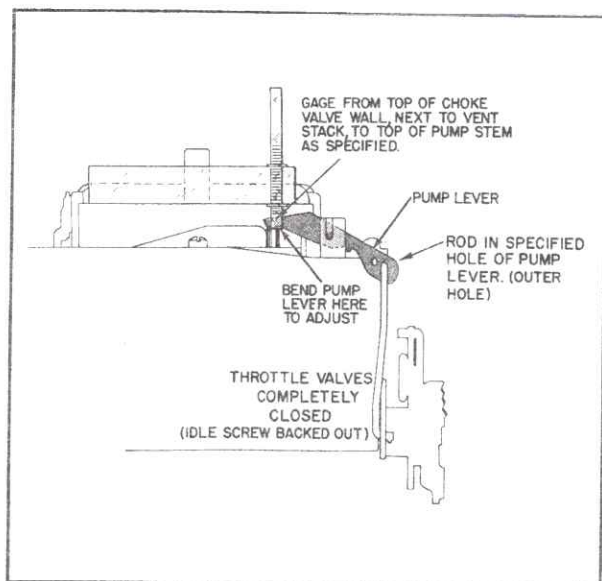

Fig. 6-94 Accelerator Pump Adjustment
## 76. Pump Rod Adjustment (Fig. 6-94)
2. Dimension should be  $11/32$  inch. Bend pump lever at the pump stem end, Fig. 6-94, to adjust.